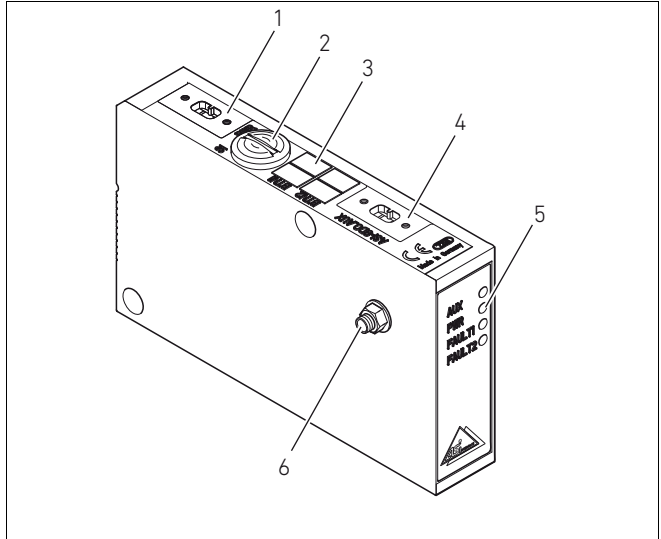
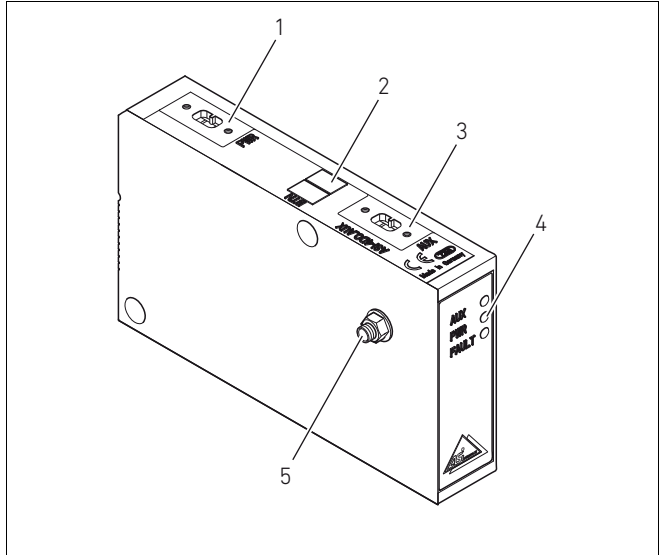

Fig. 4: Bus coupler, 8DO-AUX example
Fig. 5: Bus coupler, 4DO-AUX example
As an alternative, the FE connection (2) can also be made on the E end plate or directly on the AS-i (see Fig. 4 on page 58 and Fig. 5 on page 59).
- ▶ To do this, unscrew the screw for the FE connection (1) from the EP end plate of the VS and screw it into the FE connection (2) of the E end plate or directly in the AS-i. Then establish the connection with functional grounding there.
- ▶ Connect the grounding on the FE connection (2) of the E end plate or directly on the bus coupler (see Fig. 4 on page 58 and Fig. 5 on page 59).